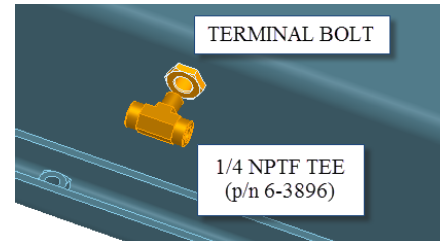

Figure 41
- Install 1/4" NPTF Tee fitting on the outside of the deck, into the terminal bolt, as shown in **Fig.41**. At the end of installation, ensure that the branches of the Tee are approximately horizontal